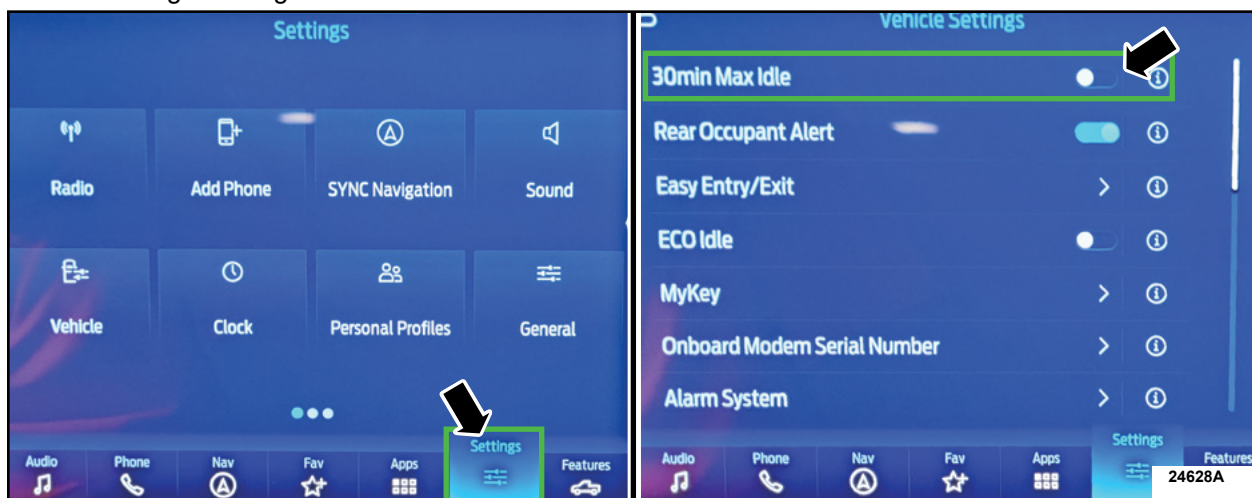

FIGURE 1
- From the center display press the vehicle settings button and turn off the 30min Max Idle option setting. See Figure 1.